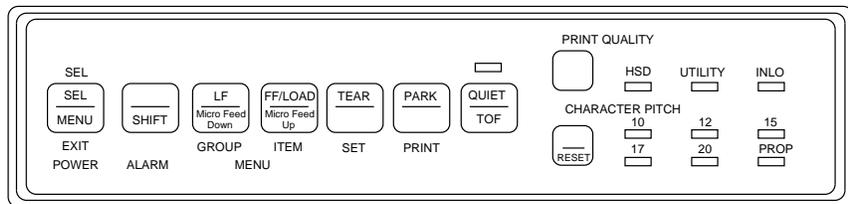

Figure 6-7. Model 602 ROP Control Panel
- 11.1. Ensure that the ROP is deselected (**SEL** light is off). See Figure 6-7. If the ROP is not deselected, press the **SEL** button.